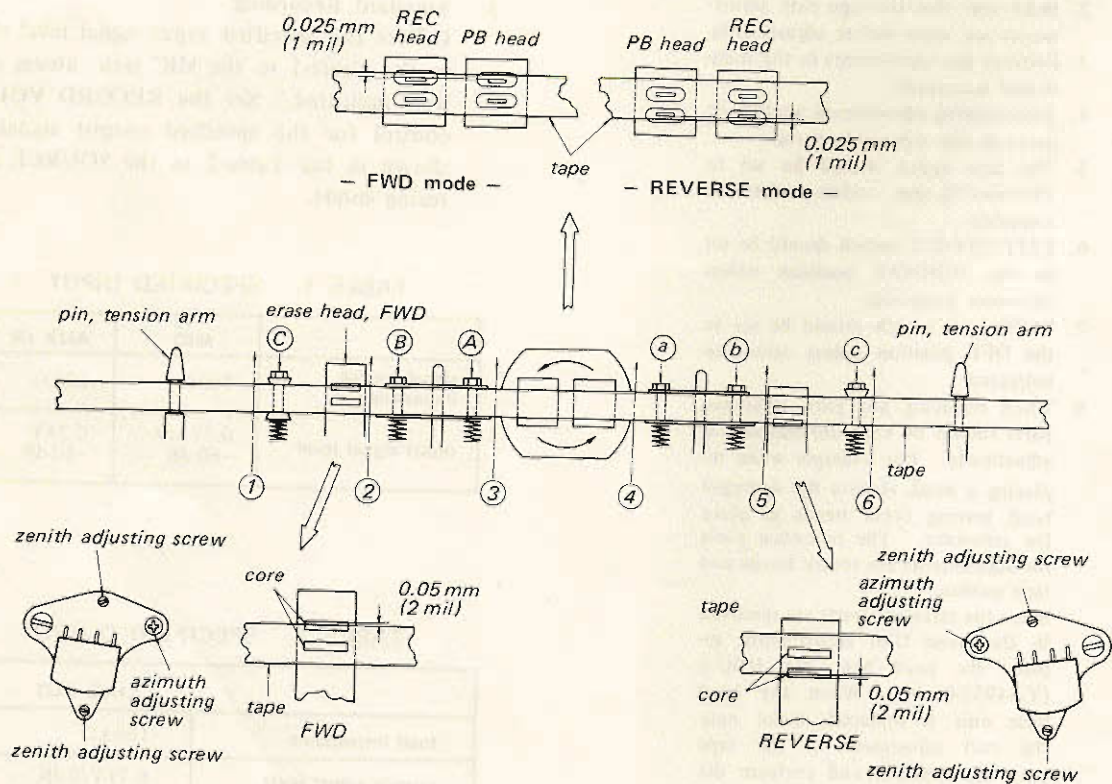

Fig. 3-11. Tape path adjustments
- (1) These adjustments should be made by referring to the well-adjusted head unit. When the rotary heads have been misadjusted or removed, replace the head unit assembly (Y-34938-04-0).
- (2) A screwdriver type nut wrench (hexagon socket, 4 mm nut) is required. Grind down a wrench with a grinder as shown.
- (3) Use the R-7ES reel and the SUPER 200 tape.
- (4) After adjustments, perform the rotary head adjustments.
- (5) Before adjustments, make sure that the tension arm pin height adjustment has been made. See MECHANICAL ADJUSTMENT.
- (6) Perform the adjustments referring to Fig. 3-11.
- 2) Turn the zenith adjusting screws in the same direction and same amount, to align the upper edge of the erase head core with the tape. Turn the zenith adjusting screws counterclockwise by 40 degrees. Thus upper edge of the head core becomes 0.05 mm (2 mil) higher than that of the tape. (See Fig. 3-11.)
with the tape. Turn the zenith adjusting screws clockwise by 40 degrees. Thus the lower edge of the head core becomes 0.05 mm (2 mil) lower than that of the tape. (See Fig. 3-11.)